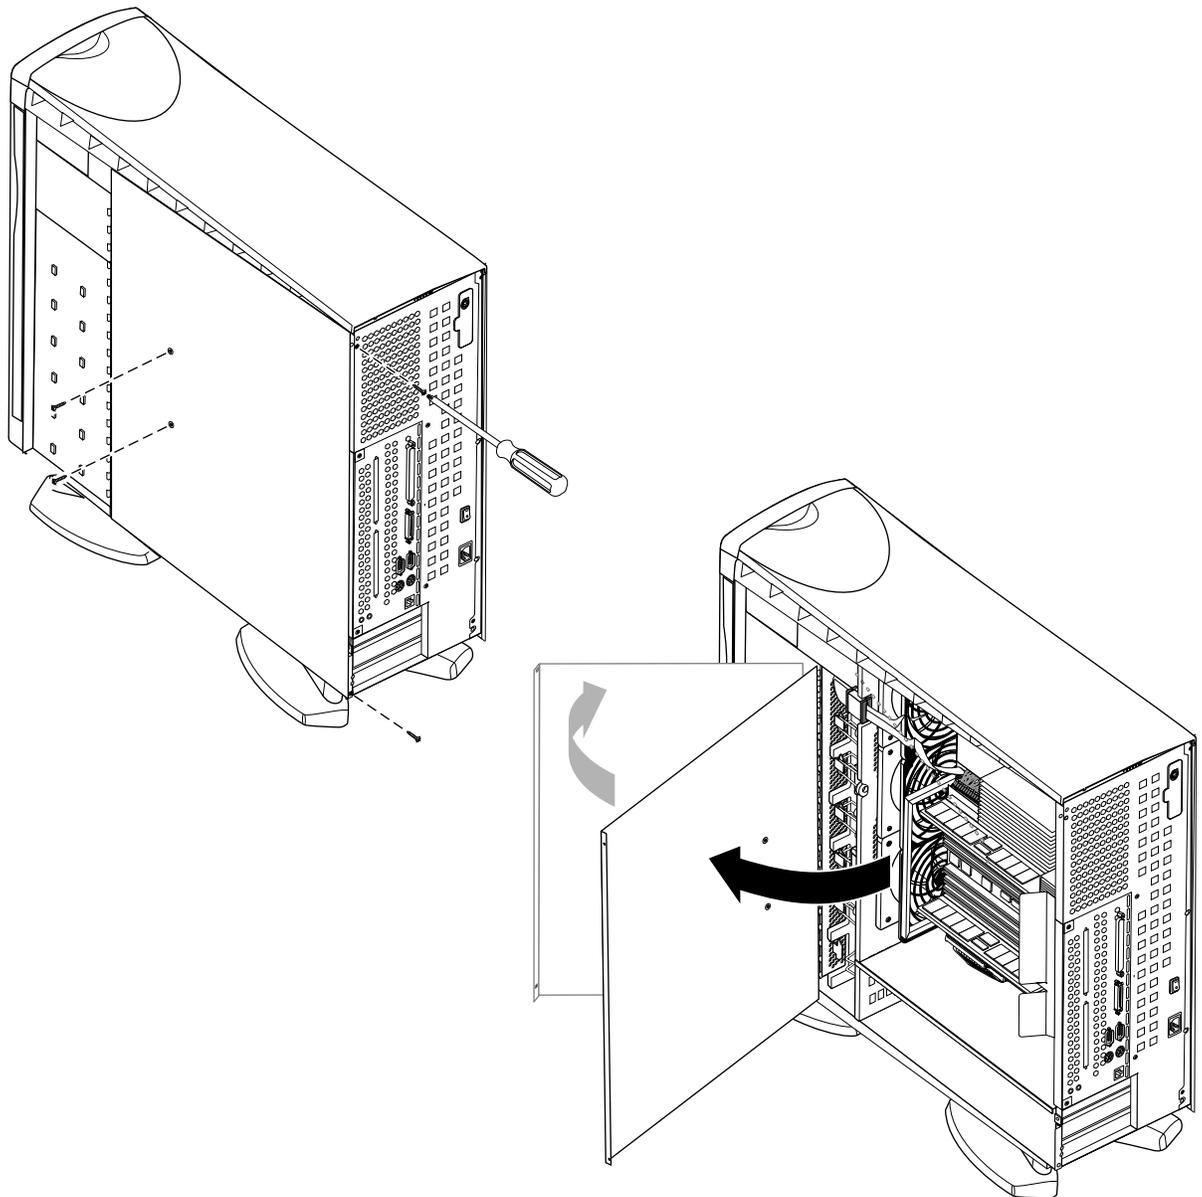

Figure 5-7 Opening the Chassis Access Door, Tower Origin200 System
3. Open the chassis access door, as shown in Figure 5-7.